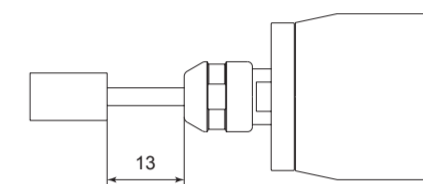

Fig. 17
- Do not exceed 13mm of overhang for mounted grindstones as shown in Fig. 17. If the overhang must exceed 13mm, reduce the motor speed in accordance with Table 2.